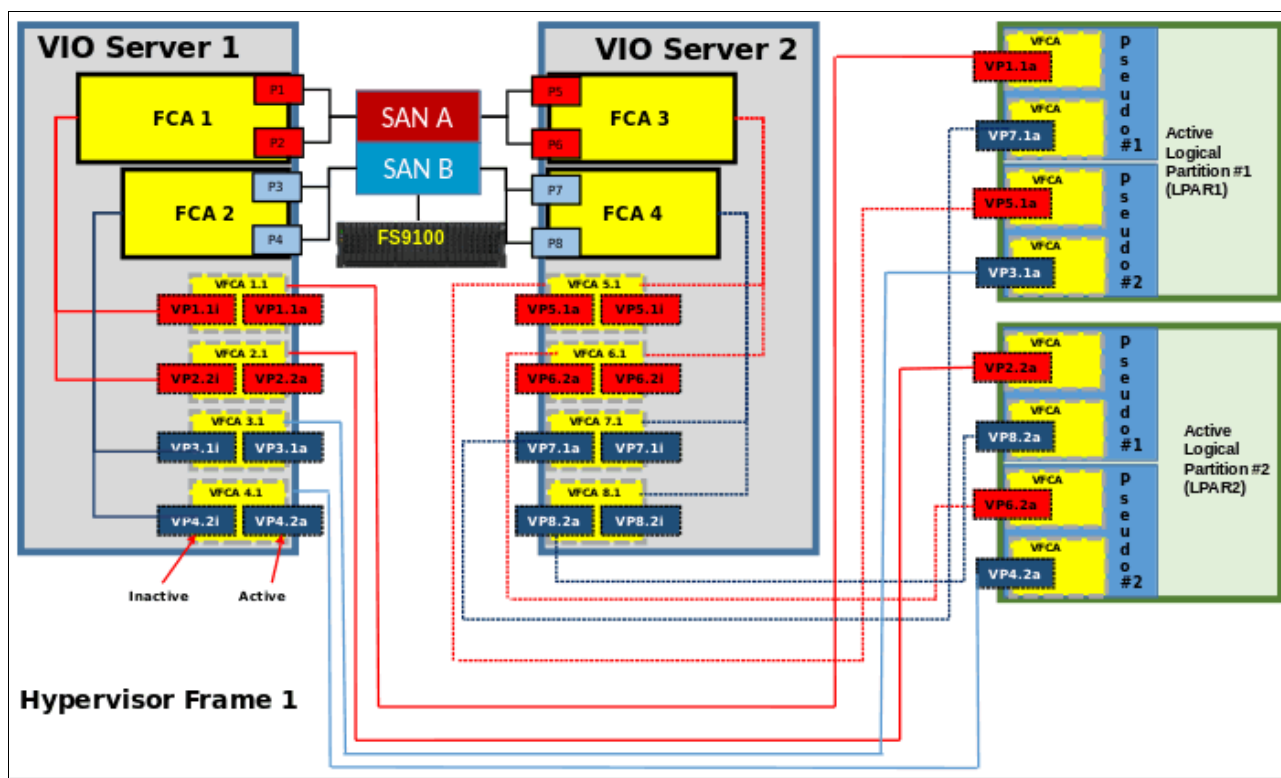

Figure 2-15 LPARs SAN connections
- ▶ Create a pseudo host in IBM Spectrum Virtualize/Storwize host definitions that contain only two virtual WWPNs, one from each fabric as shown in Figure 2-15.
Figure 2-15 shows a correct SAN connection and zoning for LPARs.